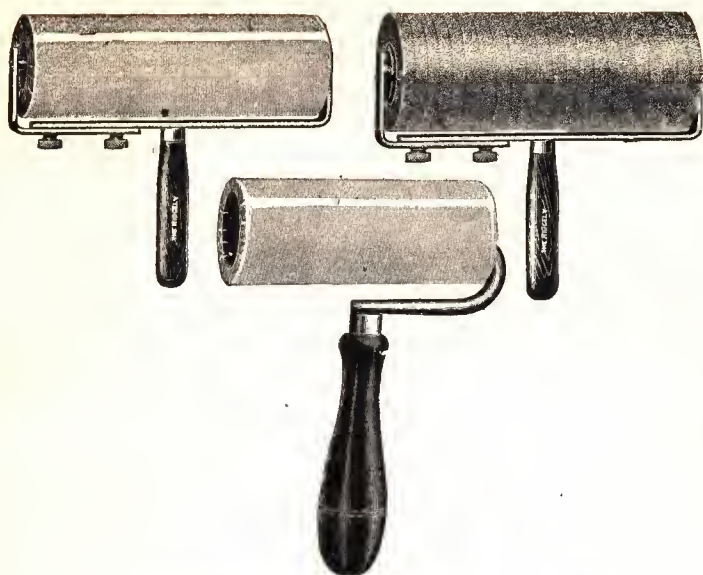

FIG. 23
**Smoothing Rollers:** It becomes necessary to use a roller to prevent the roughening or shining of the surface of wall papers by the use of the sweep brush and for this purpose there are a variety of rollers obtainable. (See Fig. 23.) These rollers have heavy steel frames and large handles and are covered with felt or soft cloth.